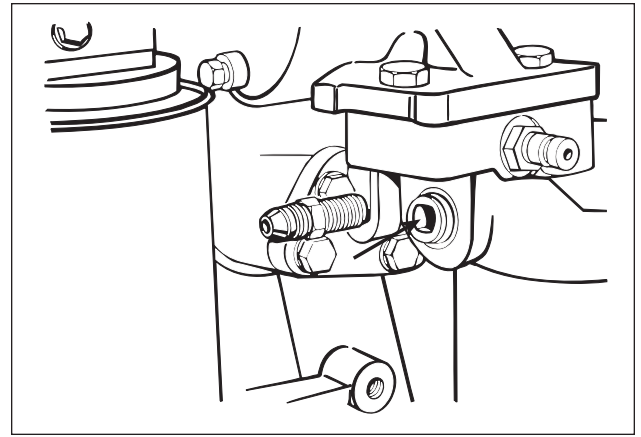

FIG. 16
1. Remove the plug from the rear, inboard filter head location and install the new fitting with seal ring. Tighten the fitting to 27 lb.-ft. (37N•m) (Fig.16).